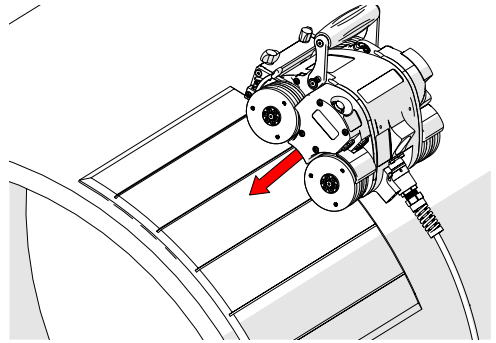

Fig. 222 - Lower crawler to mat
6. Place and hold the crawler on the installation/removal mat (Fig. 222).